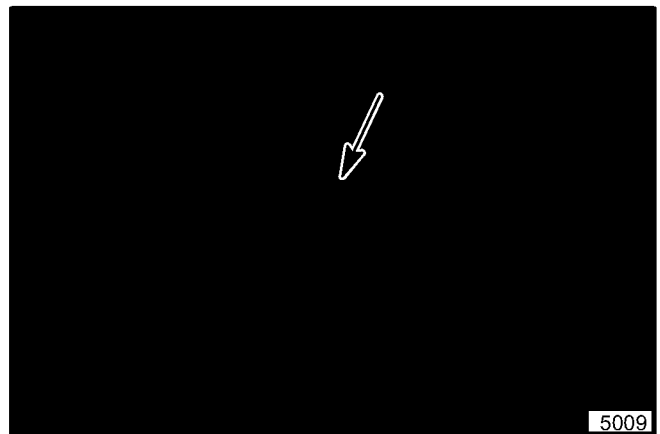

Figure 10. Tubing Clamped To Side Of Engine
17. Secure the convoluted tubing that contains the throttle cable and switch wire to the side of the engine as shown in figure 10.